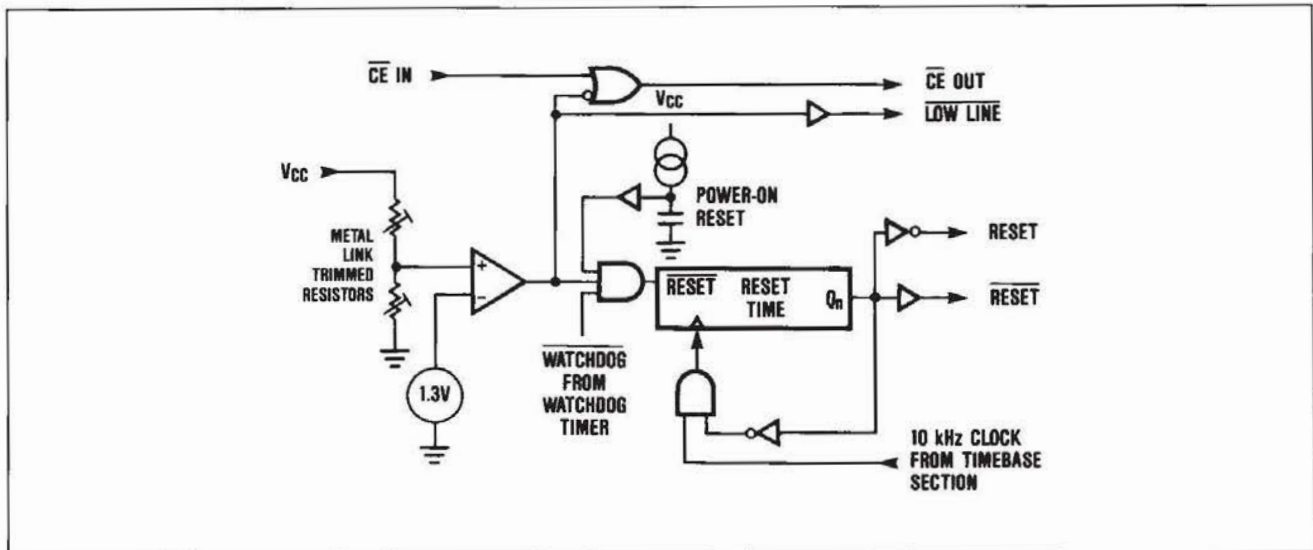

Figure 5. Reset Block Diagram
**RESET** is an active low output which goes low whenever  $V_{CC}$  falls below 4.5V (MAX690/691/694/695) or 4.25V (MAX692/693). It will remain low until  $V_{CC}$  rises above 4.75V (MAX690/691/694/695) or 4.5V (MAX692/693) for 50 milliseconds\*. See Figures 5 and 6.
The MAX691, MAX693 and MAX695 use two pins to control the Chip Enable or Write inputs of CMOS RAMs. When  $V_{CC}$  is +5V, **CE OUT** is a buffered replica of **CE IN**, with a 50ns propagation delay. If  $V_{CC}$  input falls below 4.65V (4.5V min, 4.75V max) an internal gate forces **CE OUT** high, independent of **CE IN**. The MAX693 **CE OUT** goes high whenever  $V_{CC}$  is below 4.4V (4.25V min, 4.5V max). The CE output of both devices is also forced high when  $V_{CC}$  is less than  $V_{BATT}$ . (See Figure 5.)